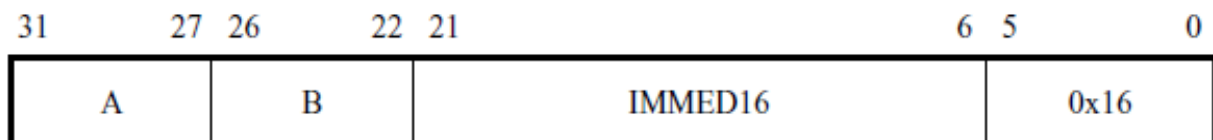

Figure 16: Format for the `blt` instruction.
1. Derive the machine code representation of the instruction `blt r7, r8, LOOP`. In the *Nios II Processor Reference Handbook* ([6]), we can find that the `blt` instruction has the format shown in Figure 16. In this case, use registers r7 and r8 as registers A and B, respectively, and determine the jump offset needed to branch to the instruction at location LOOP.